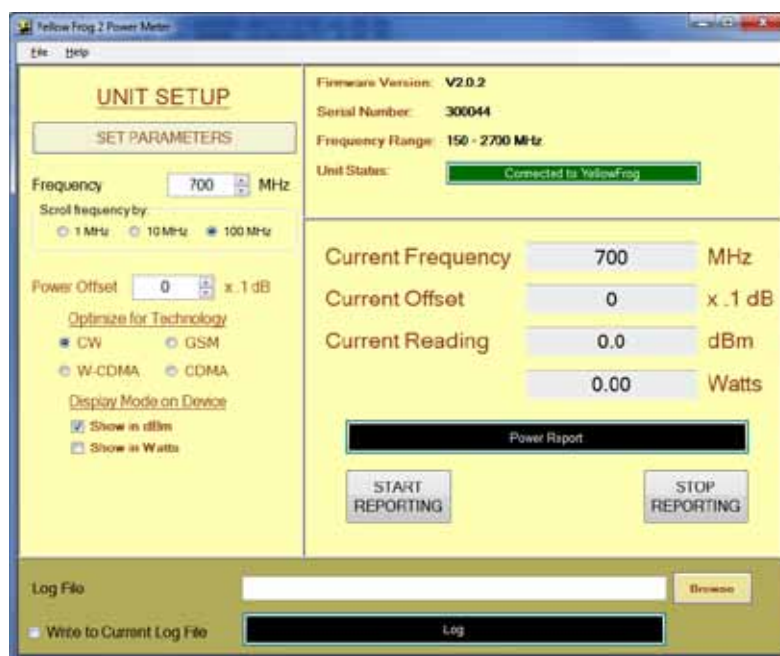

Figure 1. Yellow Frog 2 Power Meter Window
3. Start the YF2 Power Meter software; the YF2 unit should be detected and connected within one minute, as seen in the Yellow Frog 2 Power Meter window in Figure 1. When the unit is connected, **Connected to YellowFro** will be displayed to the right of “Unit Status”. Firmware version, serial number, frequency range and unit status should be displayed in the upper right compartment of the YF2 Power Meter window as seen in Figure 1:
5. Proceed with unit setup by entering: frequency (in MHz), power offset (, signal type and units of measurement in the “UNIT SETUP” compartment of the user interface window and press the “SET” button. Once set, these parameters will be “remembered” by the YF2 unit even if the unit is turned OFF and ON again. The current values of these parameters will be displayed on the lower right hand side compartment of the YF2 Power Meter window, as seen in Figure 1 above. To change them, enter new values by repeating this step.
After step "c)", the Yellow Frog 2 Power Meter window should display the window in Figure 1.
The unit will display some of its properties in the top compartment of the YF2 Power Meter window, as seen in Figure 1, repeated in Table 1 below:
After these parameters are selected, press the “SET” button under “UNIT SETUP”, to set the unit. Once set, these parameter values will be “remembered” by the YF2 unit until they are changed again at a later time. The current values of these parameters will be displayed on the lower right hand side compartment of the YF2 Power Meter window, as seen in Figure 1 above. To change them, enter new values by repeating this sequence. To start reading power level, click the “START REPORTING” button. This will result in the flashing of the label **Power Report** in green background and the display